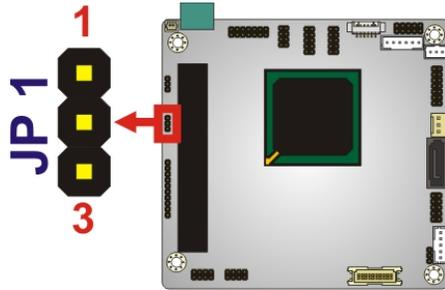

Figure 4-7: PCI-104 Voltage Jumper Location
- Jumper Location:** See Figure 4-7